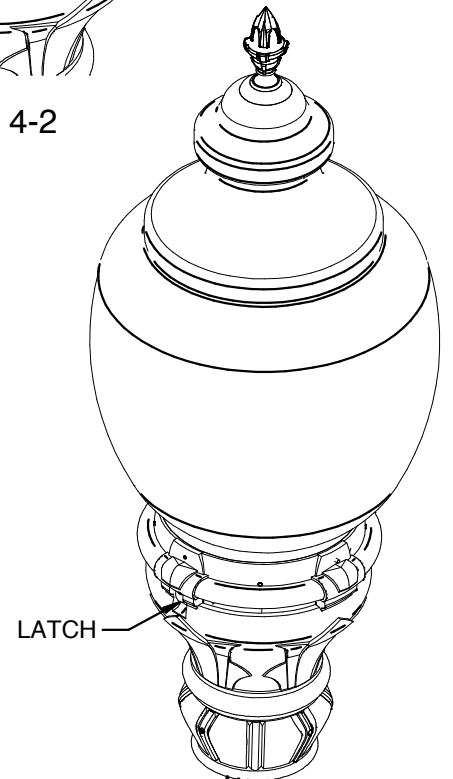

FIG. 4-3
4. CLOSE FIXTURE, ENSURE LATCH SNAPS BACK TO ITS ORIGINAL POSITION. (FIG. 4-3)
5. MAKE WIRE CONNECTIONS FROM INCOMING TO DRIVER ASSY: WHITE TO WHITE, BLACK TO BLACK AND GREEN TO GREEN. (FIG. 4-3)